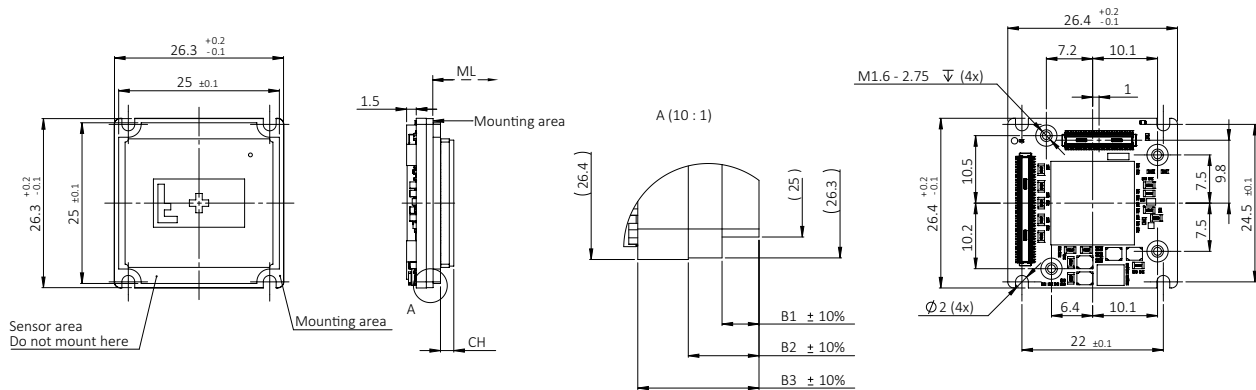

Figure 69: Bare Board (Alvium Flex) dimensions
Dimensions that are common between different models are shown in Figure 69. Model specific dimensions are listed in Table 90. **Mechanical length (ML)** defines the mechanical distance from the mounting area to the lens mount front flange, without optical filter. **Components height (CH)** relates to the electronic components with maximum height, in some cases the sensor.